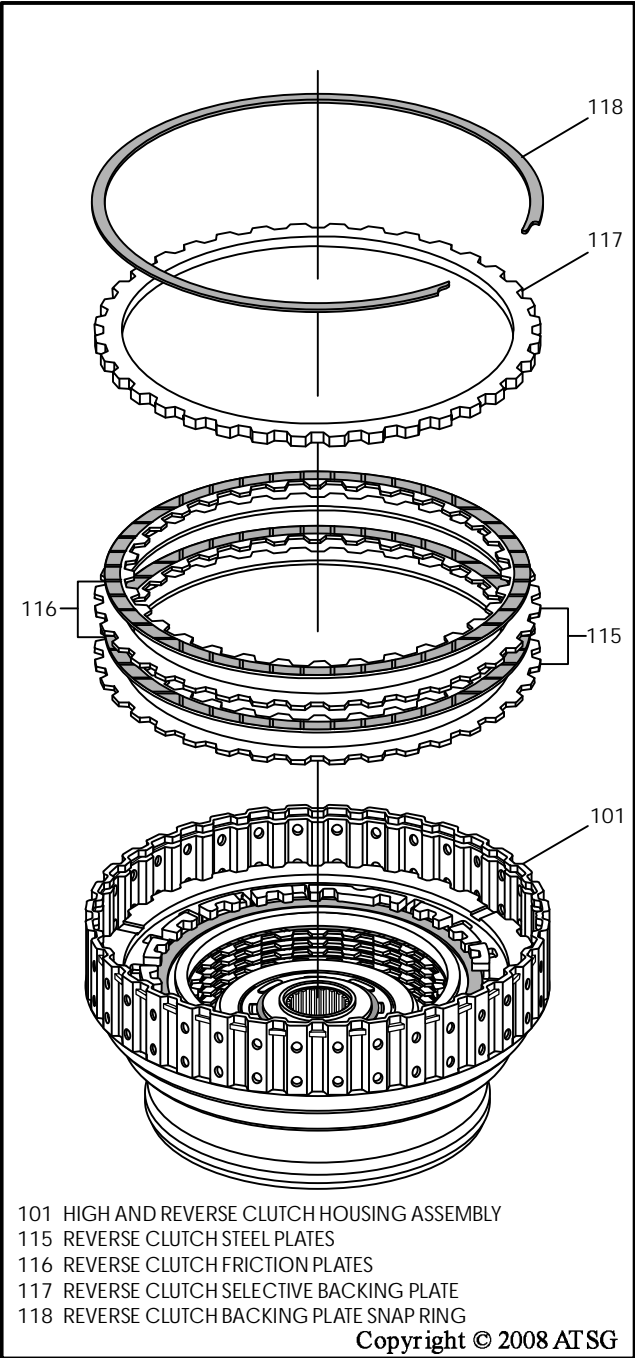

Figure 141
18. Install the reverse clutch plates beginning with a steel plate and alternating with frictions until you have installed two of each plate, as shown in Figure 141.
19. Install reverse clutch selective backing plate, as shown in Figure 141.
20. Install reverse clutch backing plate snap ring, as shown in Figure 141.